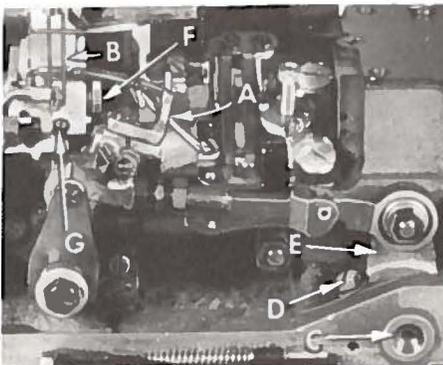
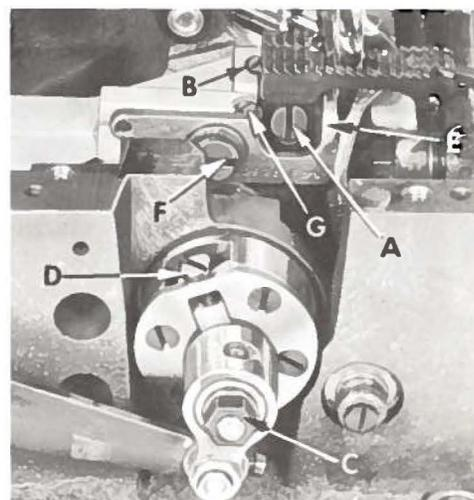

Fig. 5
Fig. 8
Insert the front looper (A, Fig. 5) in the looper rocker and turn handwheel in operating direction until the point of the looper, moving to the left is even with the left side of right needle (B). Note the height of the eye of the needle with respect to the looper point, then turn handwheel in the reverse direction until the looper point again moves to the left and is even with the left side of the right needle. If the motions synchronize, the height of the eye of the needle with respect to the looper point will be the same. A variation of .005 inch is allowable. If the distance from the eye of the needle to the point of the looper is greatest when the pulley is turned in the operating direction, move the looper drive shaft synchronizing stud (C, Fig. 5) to the rear. Moving it in the opposite direction acts the reverse.
Moving of the looper drive lever shaft synchronizing stud is accomplished as follows: Loosen the clamp screw (D, Fig. 5) of the looper drive lever (E). To move stud to rear (away from operator), a light tap with a small hammer, directly on the stud, is all that is required. To move stud forward (toward operator), remove the cloth plate, throat plate support, oil reservoir top cover and oil reservoir back cover, then, a light tap on the looper drive lever rocker shaft, toward the operator, is all that is required. Then, using the looper drive lever to take up the end play between the looper drive lever rocker shaft and its synchronizing stud, tighten the looper drive lever on the shaft, using screw (D, Fig. 5).
The tips of the feed dog teeth should extend the depth of a tooth or approximately $3/64$ inch above the throat plate and parallel with the throat plate at high point of travel. The height can be adjusted by loosening screw (A, Fig. 8) which holds the feed dog in position, turn height adjusting screw (B) as required and retighten screw (A). If feed dog teeth are not parallel with the throat plate, loosen nut (F, Fig. 5) and turn screw (G) clockwise to lower the front teeth, or counterclockwise to raise the front teeth. Retighten nut when feed dog is set properly.
Set the stitch to the required length. This is accomplished by loosening locknut (C, Fig. 8) (it has a left hand thread) and turning the stitch adjusting screw (D). Turning screw (D) clockwise shortens the stitch and turning it in a counterclockwise direction lengthens the stitch. The head of the mainshaft is marked with an "S" and an "L", moving the stitch regulating stud toward the "S" shortens the stitch and toward the "L" lengthens the stitch. Retighten locknut (C) after setting the stitch to the required length.
Set the rear needle guard (E, Fig. 8) horizontally so that it does not quite contact the rear of the needles when at its most forward point of travel. A clearance of $.005$ inch is permissible. It should be set as low as possible, yet have its vertical face approach within about $3/64$ inch of the needles, until the points of the loopers moving to the left, are even with the needles. To move the guard forward or rearward, merely loosen screw (F), move needle guard as required, and retighten screw. To raise or lower needle guard, loosen screw (F) and turn screw (G) clockwise to lower needle guard or counterclockwise to raise it. Retighten screw (F) after guard is properly set.